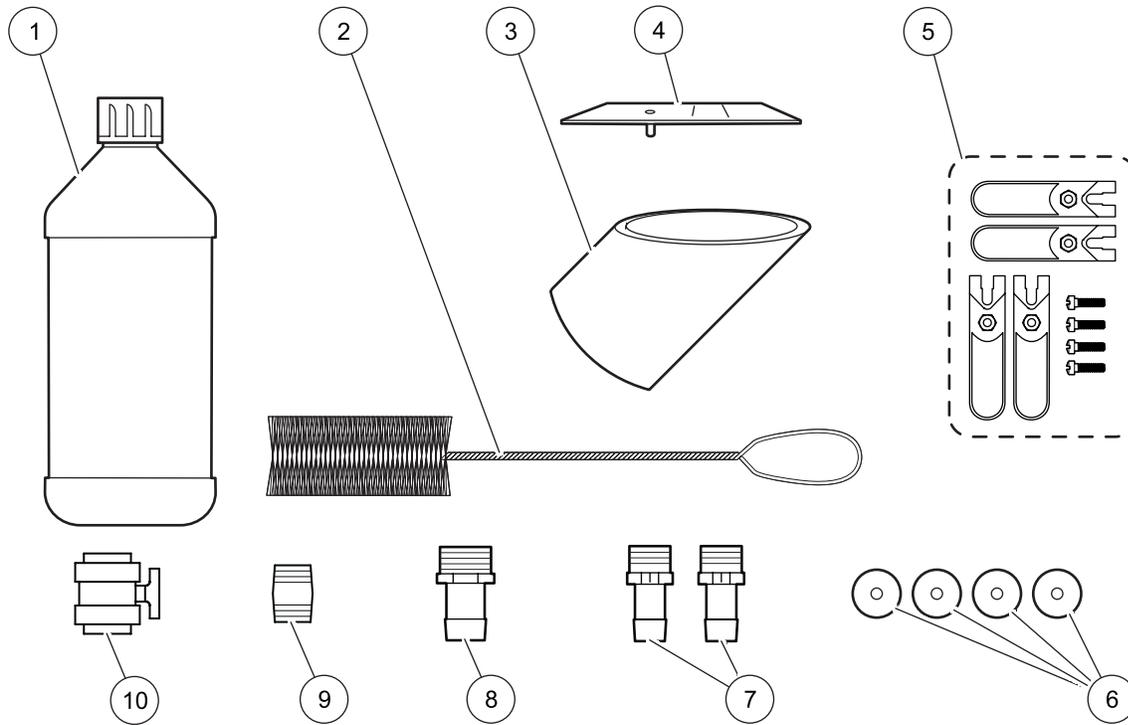

Figure 7 Installation kit items¹
- Installation kit items (Figure 7)